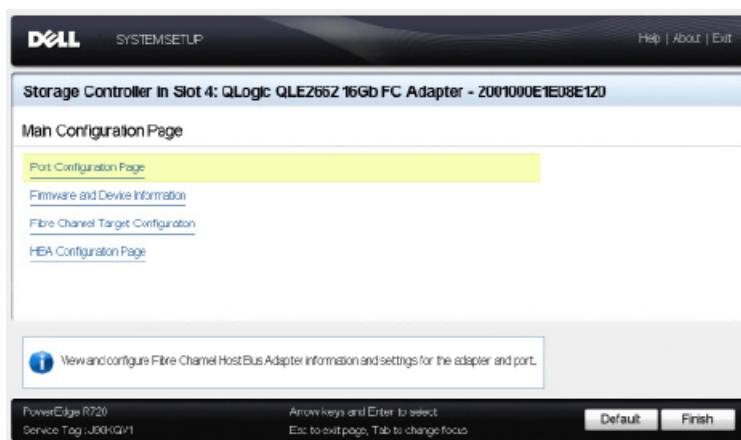

Figure 3-12. Dell System Setup: Main Configuration
3. In the Device Settings window, select your device and then press ENTER. The Main Configuration Page for the selected device appears. The Main Configuration Page is the top-level menu of the adapter configuration pages. Figure 3-12 shows an example of the Main Configuration Page.